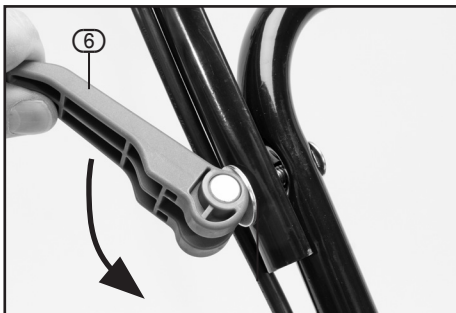

FIG.4
8.4 ATTACH UPPER HANDLE SECTION – FIG.4